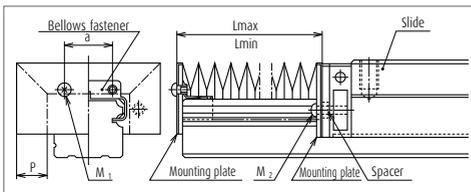

Fig. 7.7
* Fixing to the ball slide (Fig. 7.7)
- ▶ Remove two machine screws (M_2) which secure the end seals to the end of the slide (**Fig. 7.7**). For NS15, hold the end cap by hand. Otherwise, the end cap is detached from the ball slide, and the balls inside may spill out.
(5) Bellows
- ▶ To install bellows for NH and NS Series, lightly knock a fastener exclusively for bellows to the end of the rail (**Fig. 7.7**). Then secure the mounting plate to the end of the bellows through the tap hole of the fastener.